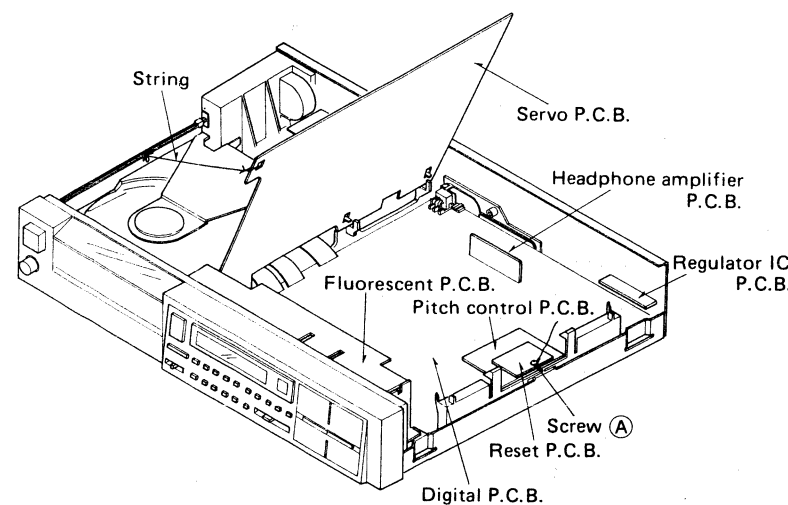

Fig. 27
3. When checking the soldered parts on the servo P.C.B., raise the P.C.B. as in Fig. 27.
2. Remove the servo P.C.B. to shift it as in Fig. 27.
3. Check each part. To check soldered parts, remove screw (A) and turn over the P.C.B.
3. Remove screw (A) and microcomputer reset circuit and pitch control P.C.B.
4. Again tighten screw (A) to fit the microcomputer reset P.C.B.
2. Remove the servo P.C.B. to shift it as in Fig. 27, and check each part.